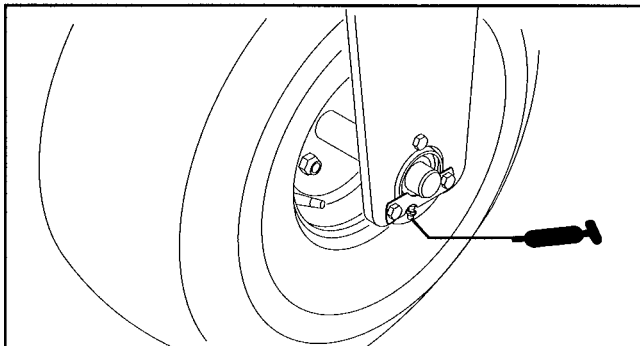
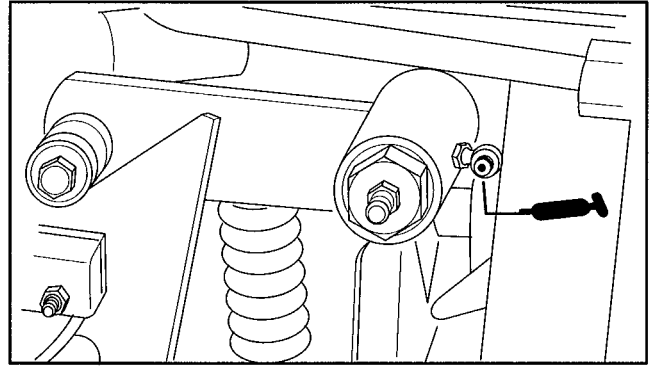
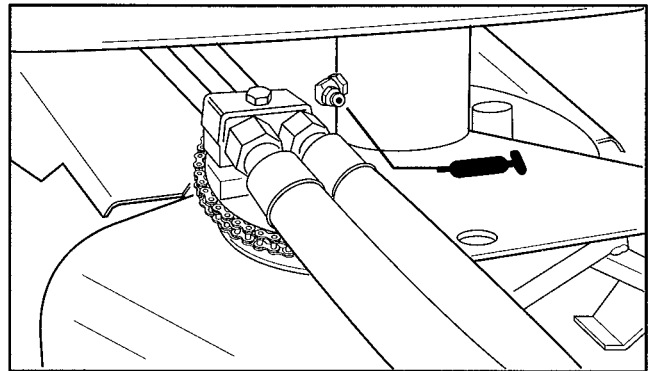

Figure 18
Figure 19
Figure 20
The bearings and bushings that must be lubricated are: front wheel bearing (Fig. 18), Traction Control Linkage (Fig. 19) and steering shaft (Fig. 20).
Note: To gain access to grease fitting on traction control linkage (Fig. 19), remove (3) screws securing side panel to right side of machine and remove panel.
Note: To gain access to grease fitting on steering shaft (Fig. 20), remove (4) screws and spacers securing fuel tank to top of machine and raise front of tank.